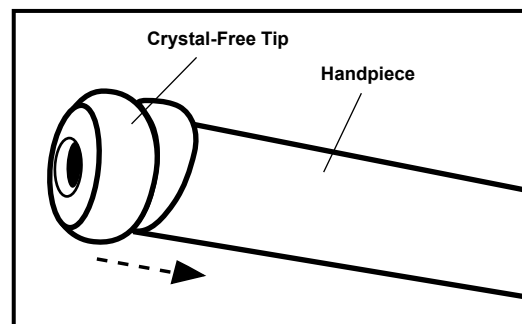

Figure 15
- Choose the tip for patient's skin type and slide onto the handpiece (fig. 15).